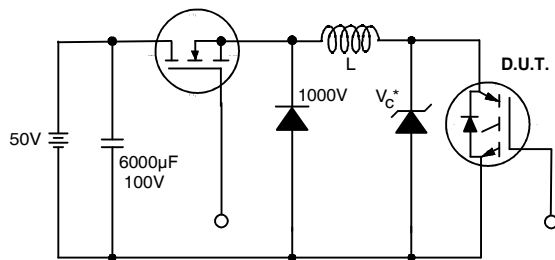

Fig. 19 - Clamped Inductive Load Test Circuit
- ② $V_{CC}=80\%(V_{CES})$, $V_{GE}=20V$, $L=10\mu H$, $R_G = 23\Omega$ (figure 19).
- ③ Pulse width $\leq 80\mu s$; duty factor $\leq 0.1\%$.
- ④ Pulse width $5.0\mu s$, single shot.
- ⑤ When mounted on 1" square PCB (FR-4 or G-10 Material).